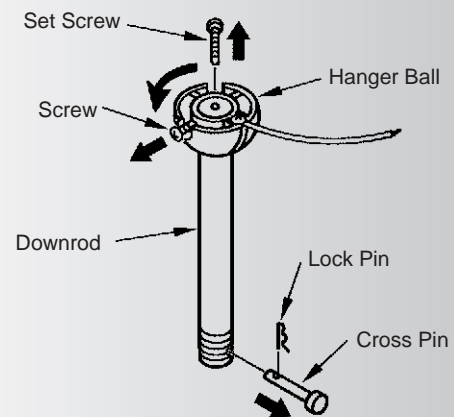

Fig. 6
Step 3. Remove the hanger ball from the downrod assembly by loosening the set screw, removing the cross pin and sliding the ball off the rod. Remove the hitch pin and retaining clip from the downrod assembly. (Fig. 6)